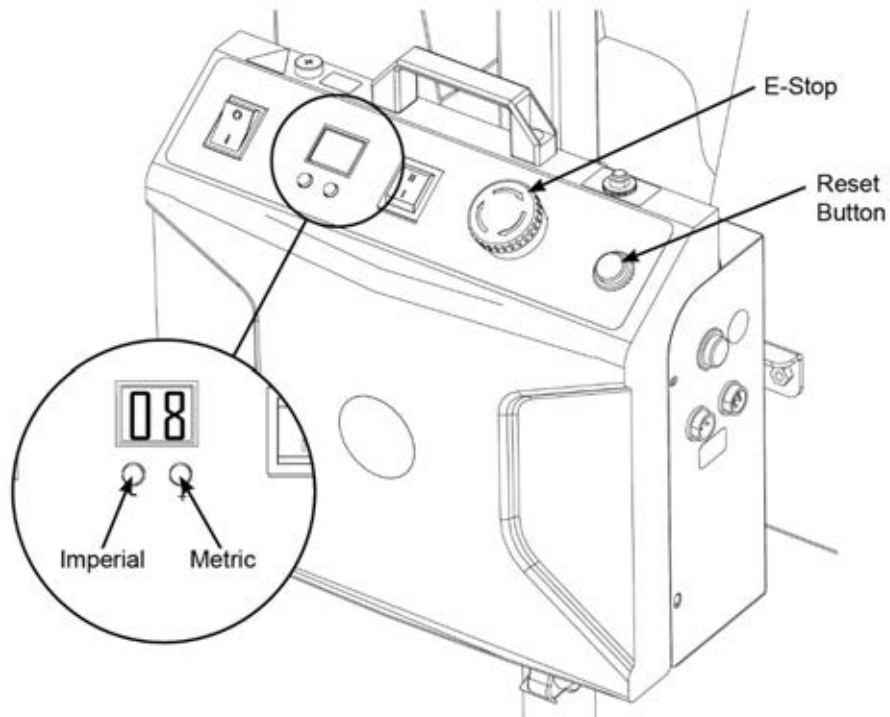

Figure 23 Units Setting
- ❖ **In Metric Units setting** (refer to Figure 23): The digits representing the length of the string of void fill paper are in **meters**. For example, if the display shows 0.5, the preferred string of void fill paper is set to 0.5m **[+/- 10%]**.
- ❖ **In Imperial Units setting** (refer to Figure 23): The digits representing the length of the string of void fill paper are in **inches**. For example, if the display shows 04, the preferred string of void fill paper is set to 40 in. **[+/- 5%]**.
1. Switch the **I/O Main Switch** to **[I] (On)** position (refer to Figure 23).